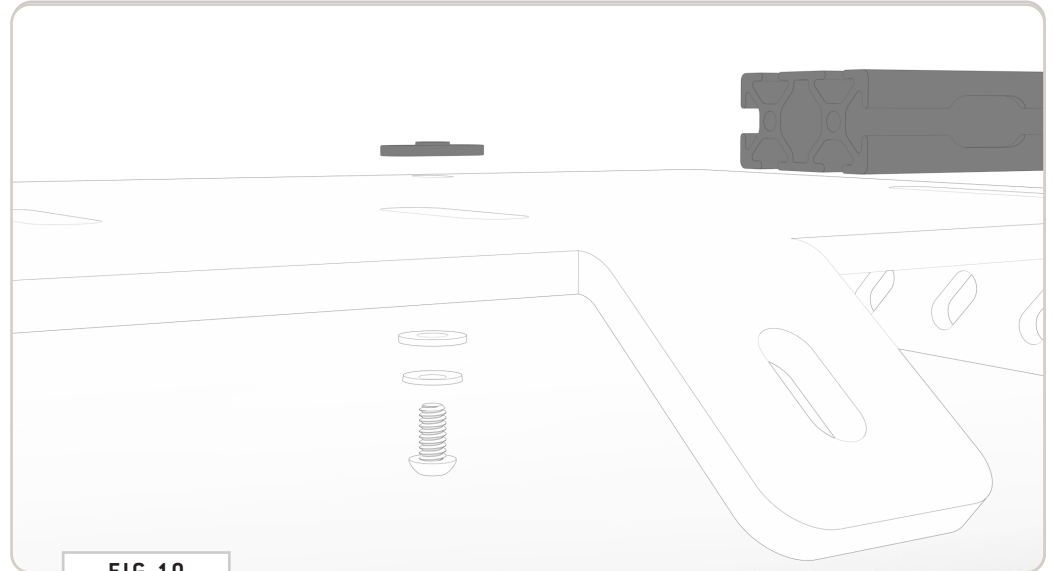

FIG 10
**4.1 Crossbar Fairing Bracket:** Stack a 1/4-20" x 0.5 Button Head Screw, 1/4" Belleville Lock Washer and 1/4" Flat Washer as shown in FIG 10 and insert into the six available front holes of the Crossbar Fairing Bracket. Loosely assemble using a T-Nut. You'll only want to screw the T-Nuts on a little in order to provide clearance for the next step.